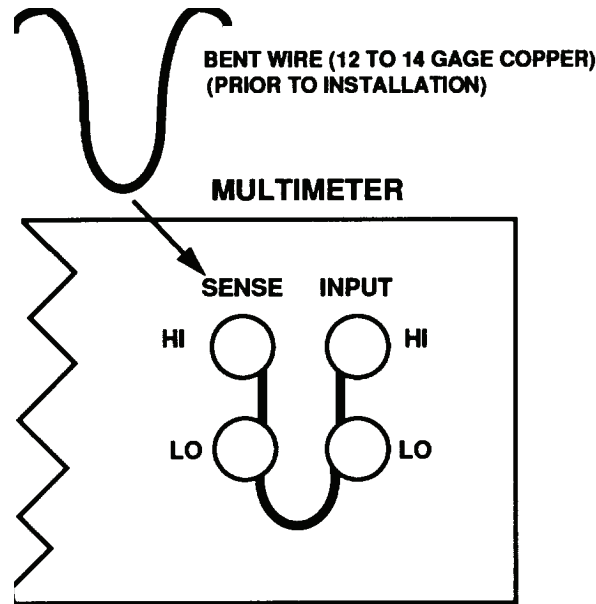

Figure 1. Four-terminal short.
- (1) Remove all external input signals from the front and rear terminals.
- (2) Select the **DCV FUNCTION** and the **100 mV RANGE**.
- (3) Set front panel **TERMINALS** pushbutton to **FRONT** position.
- (4) Ensure that at least a 4 hour warm-up has elapsed since power was applied.
- (5) Front Terminal Offset:
- (a) Connect a four-terminal short across the front panel terminals as shown in figure 1.